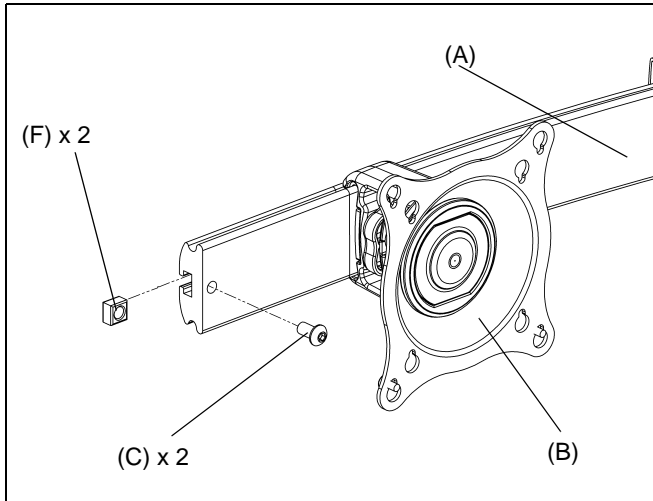

Figure 6
2. Slide two 1/4-20" end locks (F) into mounting rail on opposite ends of the array. (See Figure 6)
3. Line up end locks (F) with holes located at each end of the array. (See Figure 6)
4. Install two 1/4-20 x 1/2" button head cap screws into array holes and end locks (F) at each end of the array. (See Figure 6)